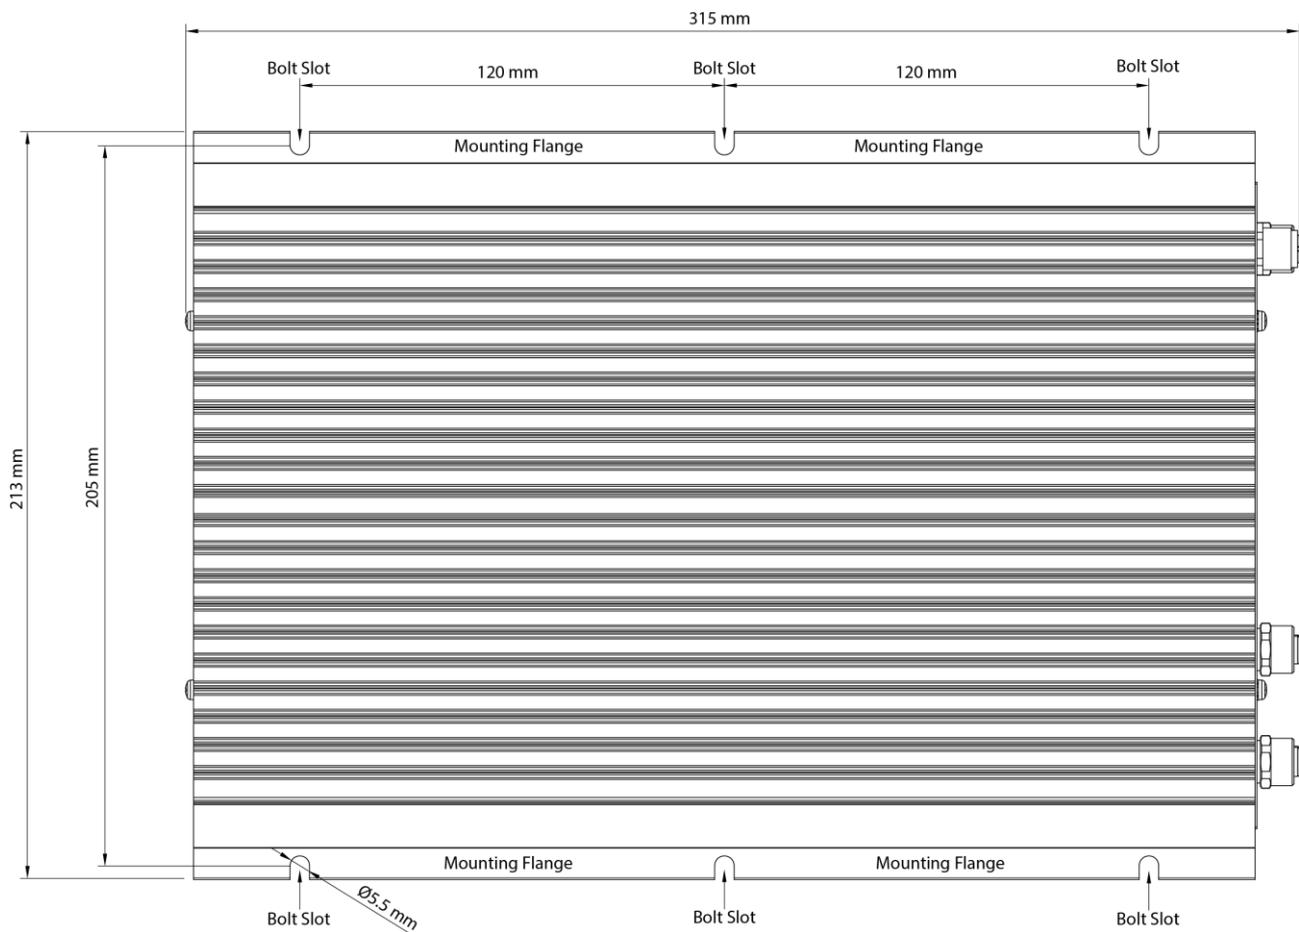

Figure 1: Mounting Measurements
- Secure the amplifier to the mounting surface by **fastening the bolts in the slots on the mounting flanges** (see Figure 1: Mounting Measurements)